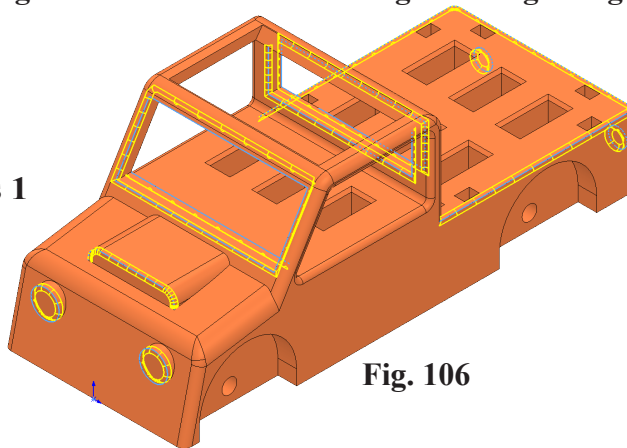

Fig. 106
windshield, all edges rear window and bed edges and light edges (18), Fig. 106